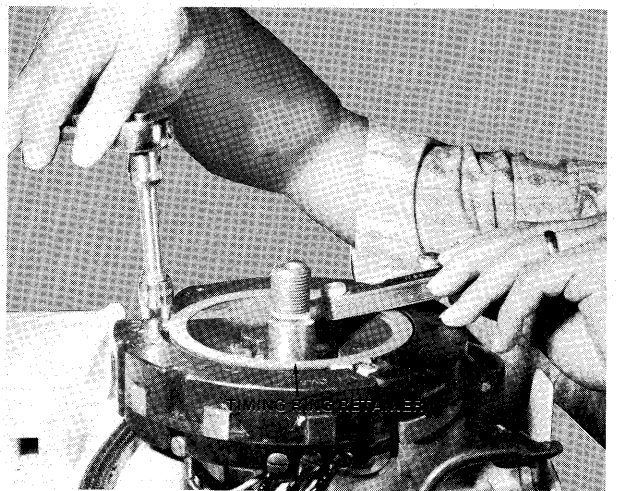

Figure 15 - Adjusting Timing Ring Retainer
- C. Install four (4) bowed washers, timing ring retainer and four (4) stop nuts. Tighten stop nuts down evenly using a .003 feeler gauge between retainer and timing ring at retainer legs. There should be drag on feeler gauge. See figure 15.